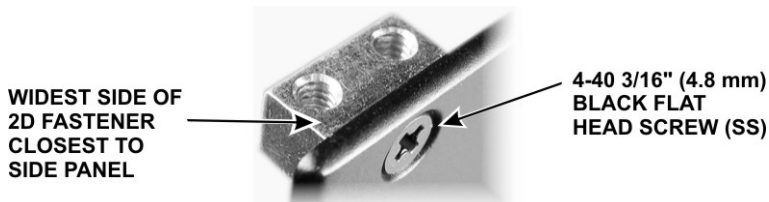

Figure 17. Installing Left Side Panel 2D Fastener.
Mount a 2D fastener at the top back corner of the left side panel (the one you just installed) with a 4-40 3/16" (4.8 mm) black flat head screw (SS) as shown in Figure 17. Do **not** use washers. Be sure the 2D fastener is oriented correctly as shown in the figure.